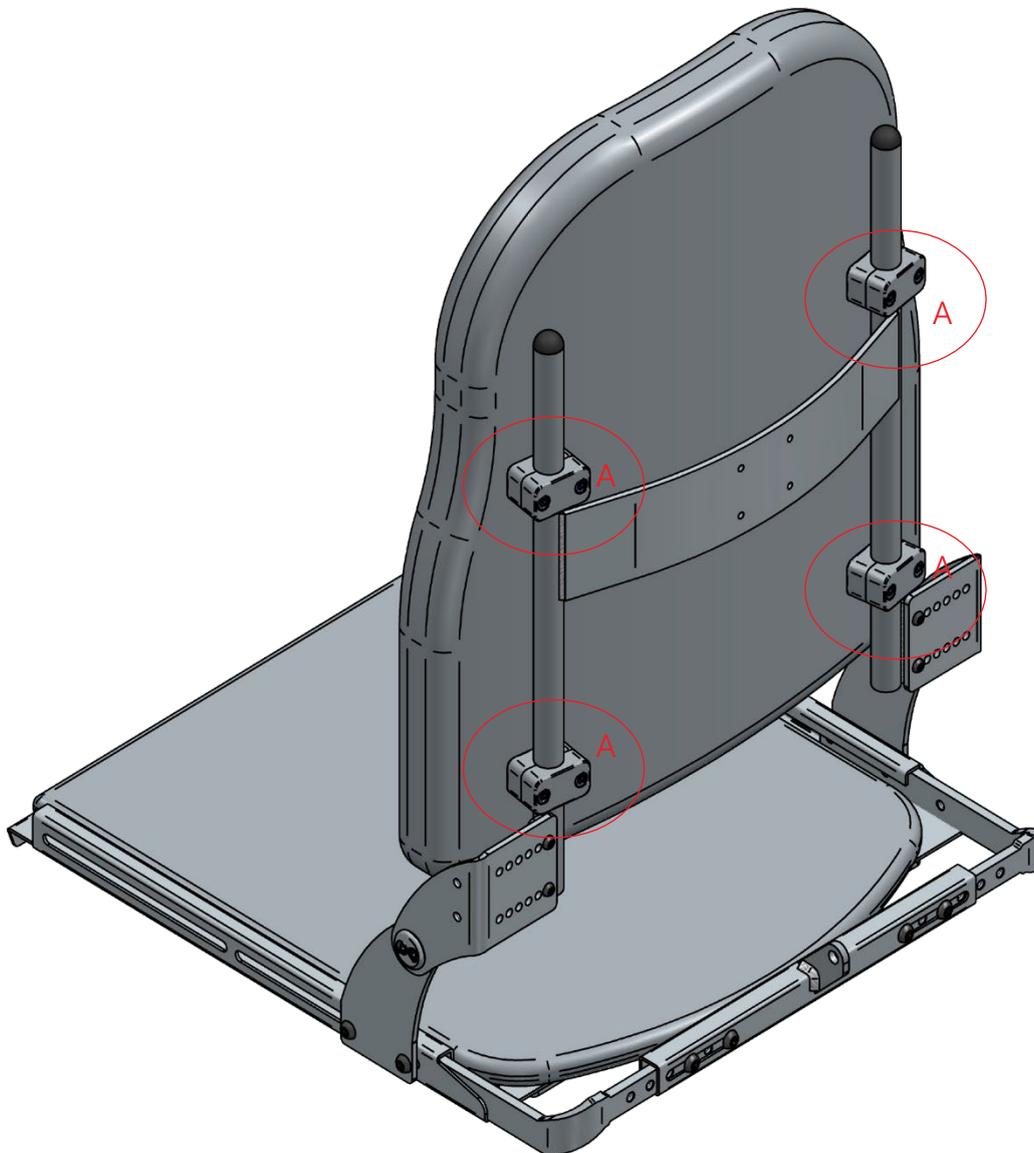

Figure 2
1. Loosen the 4x2 bolts (Fig. 2 - Pos. A) on the back cushion.
3. Tighten the 4x2 bolts (Fig. 2 - Pos. A) on the back.